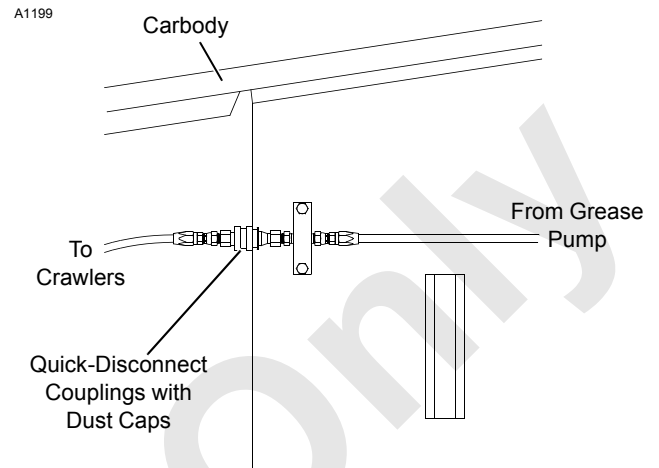

FIGURE 4-9
4. If equipped with automatic crawler lube system, connect grease line from crawler to quick-disconnect coupling on carbody (Figure 4-9).